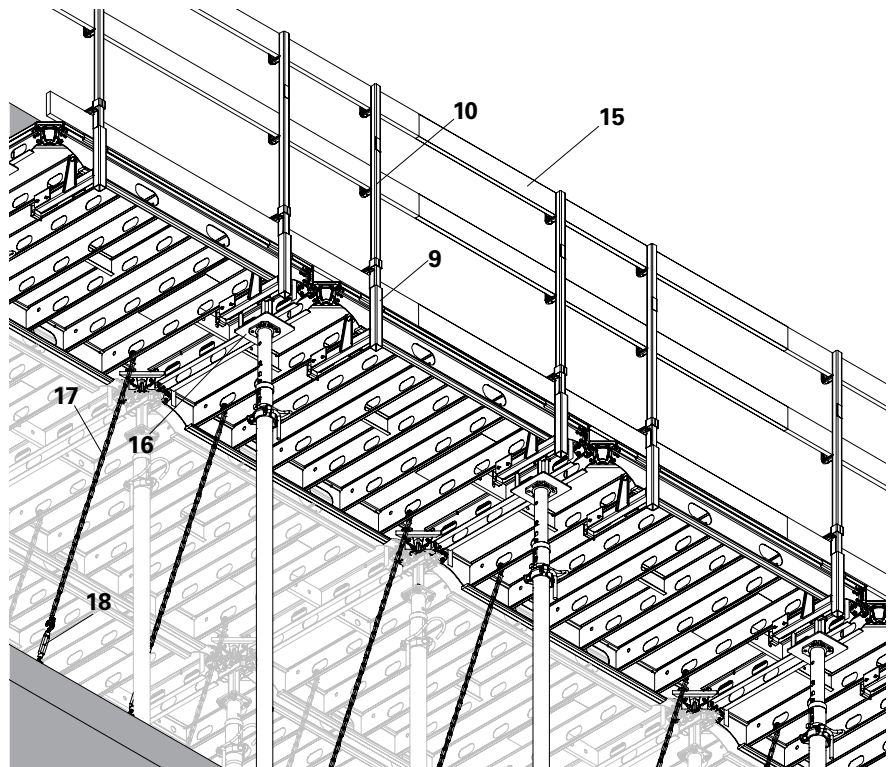

Fig. A10.10
5. Insert the guardrail post HSGP-2 (**10**) into the guardrail holder (**9**) from top only after it is firmly secured with anchor chains. (Fig. A10.10)
6. Insert guardrail boards (**15**) and secure with nails. (Fig. A10.10)
3. Tighten the turnbuckle (**18**) until the anchor chain is taut using pins and cotter pins (**20**). (Fig. A10.10)